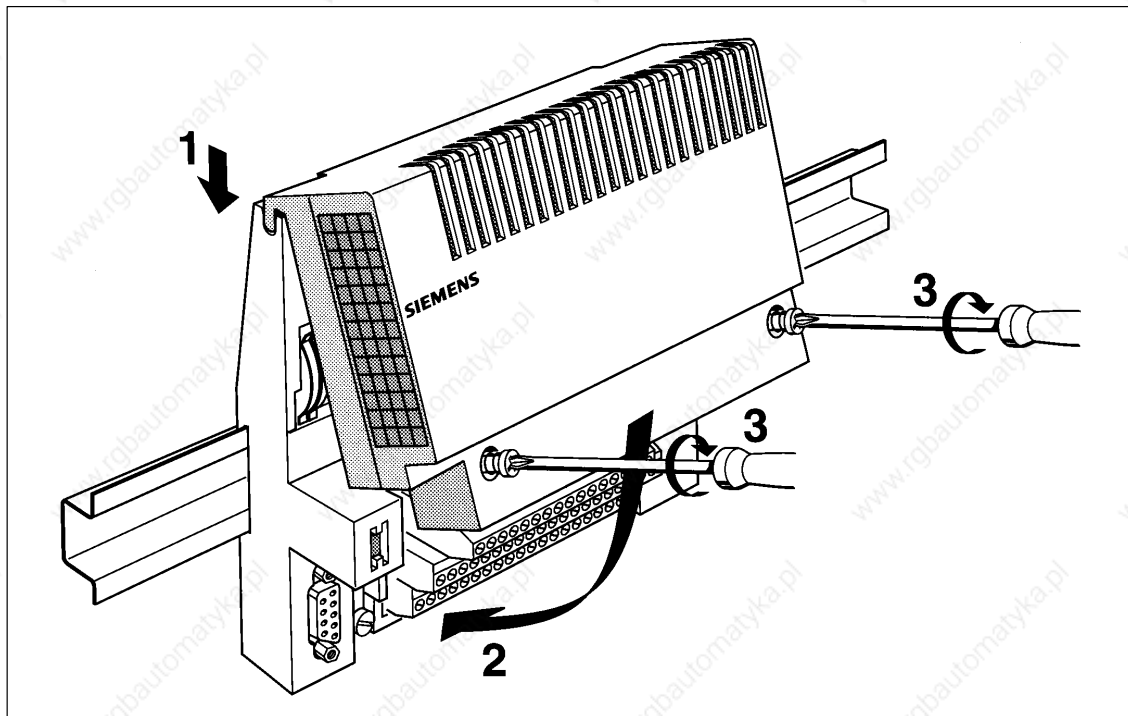

Figure 3-5 Hanging the Electronics Block on the Terminal Block
1. Remove the electronics block in the reverse sequence to that described in Figure 3-5.
2. Press the slide (1) on the bottom of the terminal block down using a screwdriver and
3. Swing the terminal block out of the standard sectional rail (2).